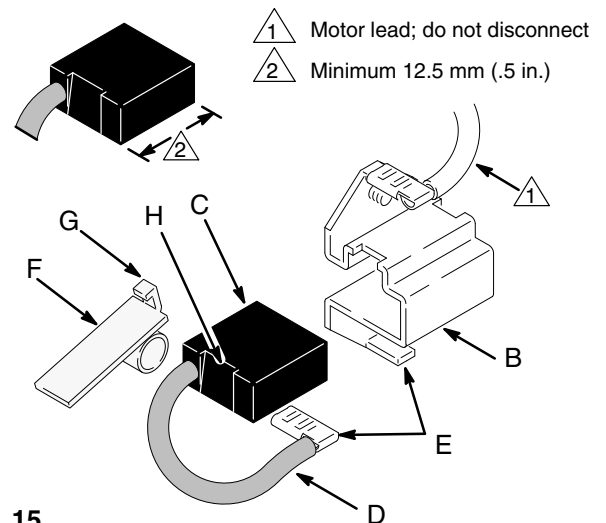

Fig. 15
3. Push in spring clip (F) and release hooks (G) from brush holder (B). Pull out spring clip. See Fig. 15.
6. Place a new brush (C) in holder (B) so ramp (H) faces spring. See Fig. 15.